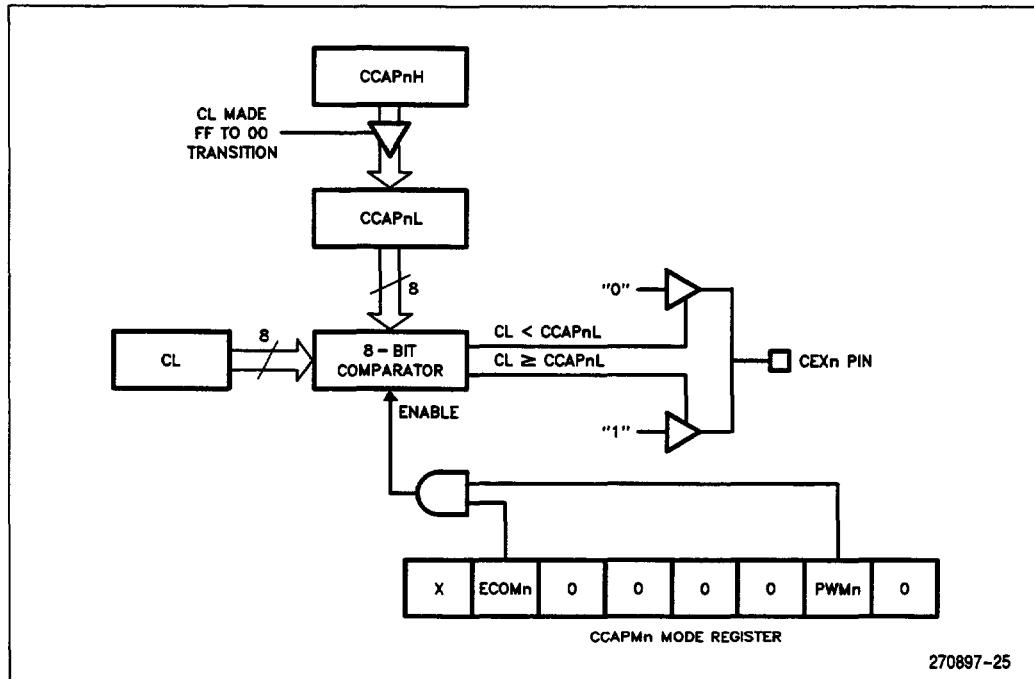

Figure 23. PCA 8-Bit PWM Mode
For this mode, the ECOMn bit and the PWMn bits in the CCAPMn mode register need to be set. The PCA generates 8-bit PWMs by comparing the low byte of the PCA timer (CL) with the low byte of the module's compare registers (CCAPnL). When $CL < CCAPnL$ the output is low. When $CL \geq CCAPnL$ the output is high. Refer to Figure 23.